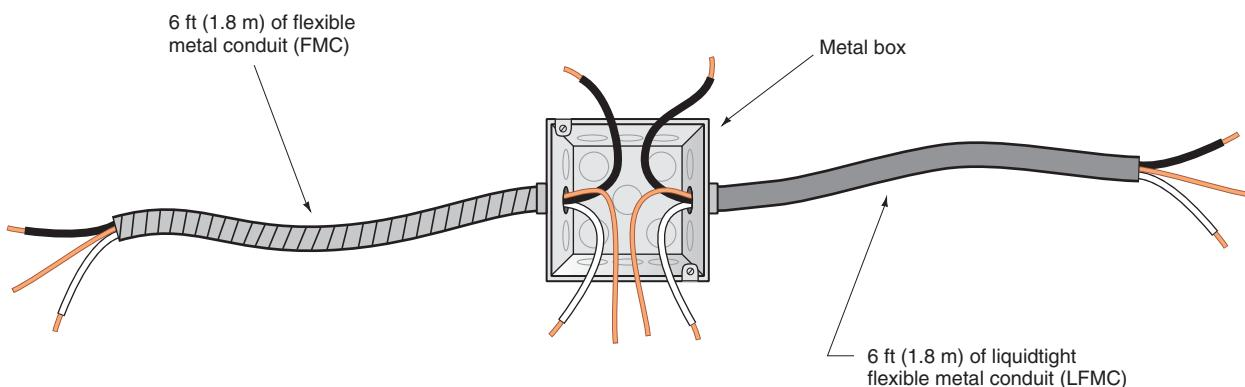

FIGURE 4-41 Use of liquidtight flexible metal conduit or flexible liquidtight nonmetallic conduit. (Delmar/Cengage Learning)
| Grounding | When terminated with listed fittings, it is considered to be an EGC <ul style="list-style-type: none"> • if it is not over 6 ft (1.8 m) long and the overcurrent device does not exceed 20 amperes. <p>See Figure 4-39 and Figure 4-40.</p> <p>Longer than 6 ft (1.8 m), not acceptable as a grounding means. Install a separate equipment grounding conductor sized per Table 250.122.</p> <p>If used to connect equipment where flexibility is necessary to minimize the transmission of vibration from equipment or to provide flexibility for equipment that requires movement after installation, an equipment grounding conductor shall be installed.</p> | When terminated with listed fittings, it is considered to be an EGC <ul style="list-style-type: none"> • in trade sizes $\frac{3}{8}$ and $\frac{1}{2}$ not over 6 ft (1.8 m) long and the overcurrent device does not exceed 20 amperes. In trade sizes $\frac{3}{4}$, 1, and $1\frac{1}{4}$ not over 6 ft (1.8 m) long and the overcurrent device does not exceed 60 amperes. <p>Trade size $1\frac{1}{2}$ and larger, not acceptable for grounding. See Figures 4-39, 4-40, 4-41, and 4-42.</p> <p>Longer than 6 ft (1.8 m), LFMC is not acceptable as a grounding means. Install a separate equipment grounding conductor sized per Table 250.122.</p> | For grounding, install an equipment grounding conductor sized per 250.122 . Install per 250.134(B) . For bonding, install per 250.102 . See Figure 4-41. |
- A** Permitted as a grounding means if it is not over trade size $1\frac{1}{4}$, is not over 6 ft (1.8 m) long, and is connected by fittings listed for grounding. The 6 ft (1.8 m) length includes the total length of any and all flexible connections in the run. See Figure 4-41.